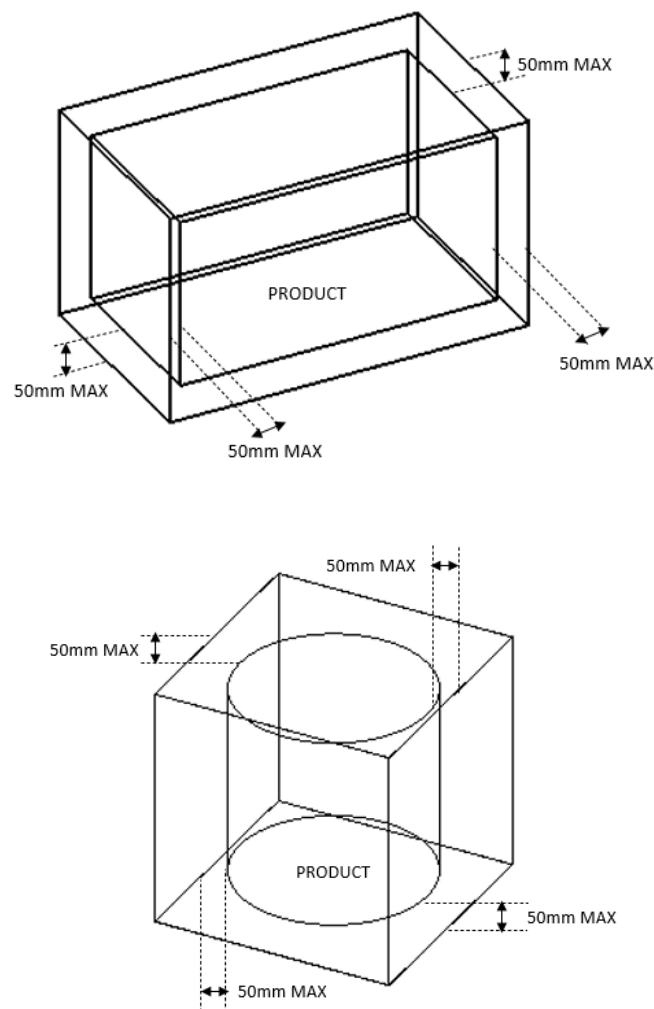

Figure 2: Primary packaging dimensional requirements
- Dimensions of primary packaging are optimised to achieve protection requirements within a minimum volume. It is expected that primary packaging dimensions will not exceed an additional 100mm of product length, width and depth (an equal 50mm max gap around all sides of part) unless a specific requirement for greater can be demonstrated and approved by Rolls Royce (Figure 2).